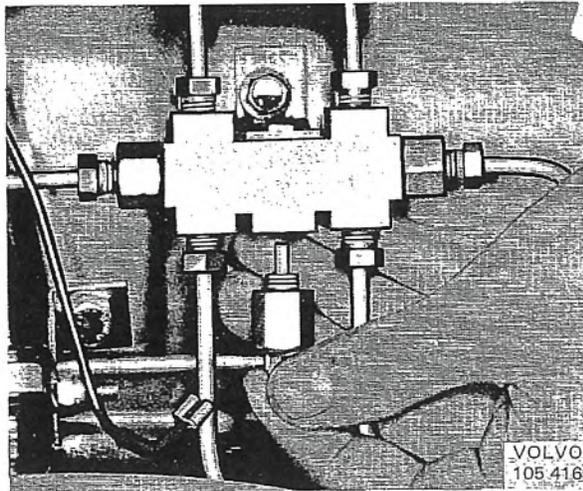

Fig. 5-55. Removing warning switch
1. Disconnect the electric cable and screw out the warning switch (Fig. 5-55) so that the pistons return to normal position.